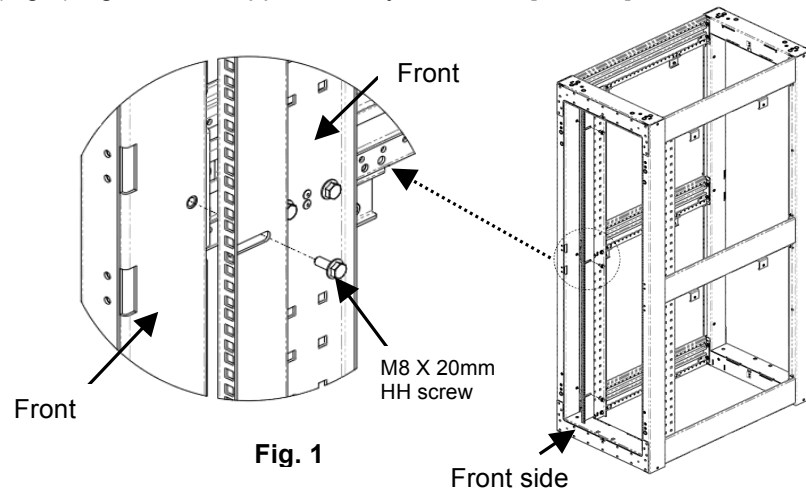

Fig. 1
1. For a GR-63-CORE seismically rated system, front rails must be attached to the front verticals using included M8X20mm HH screws (Fig.1), tightened to approximately 168 in-lbs [19 N-m].